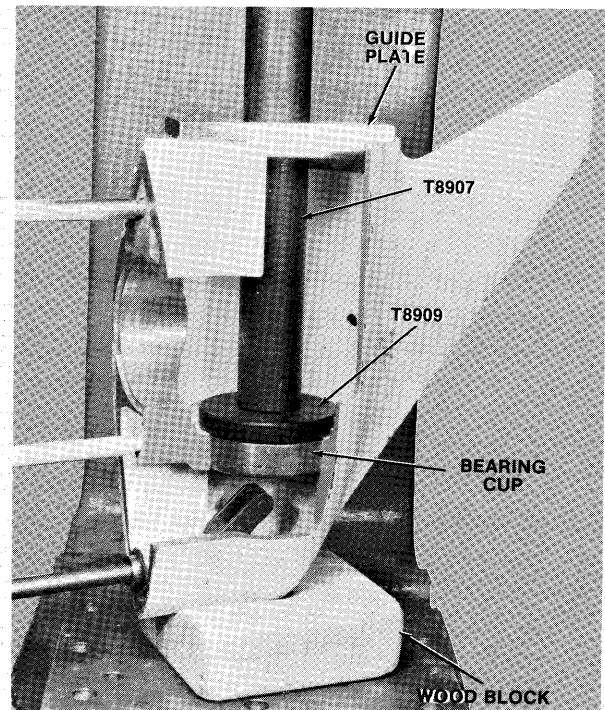

Figure 26—Installing Bearing Cup
- A. Press bearing cup in gear housing—lower using cup installer (Special Tool T8909) with driver handle (Special Tool T8907) and guide plate from bearing guide set (Special Tool T8918) as shown in figure 26.